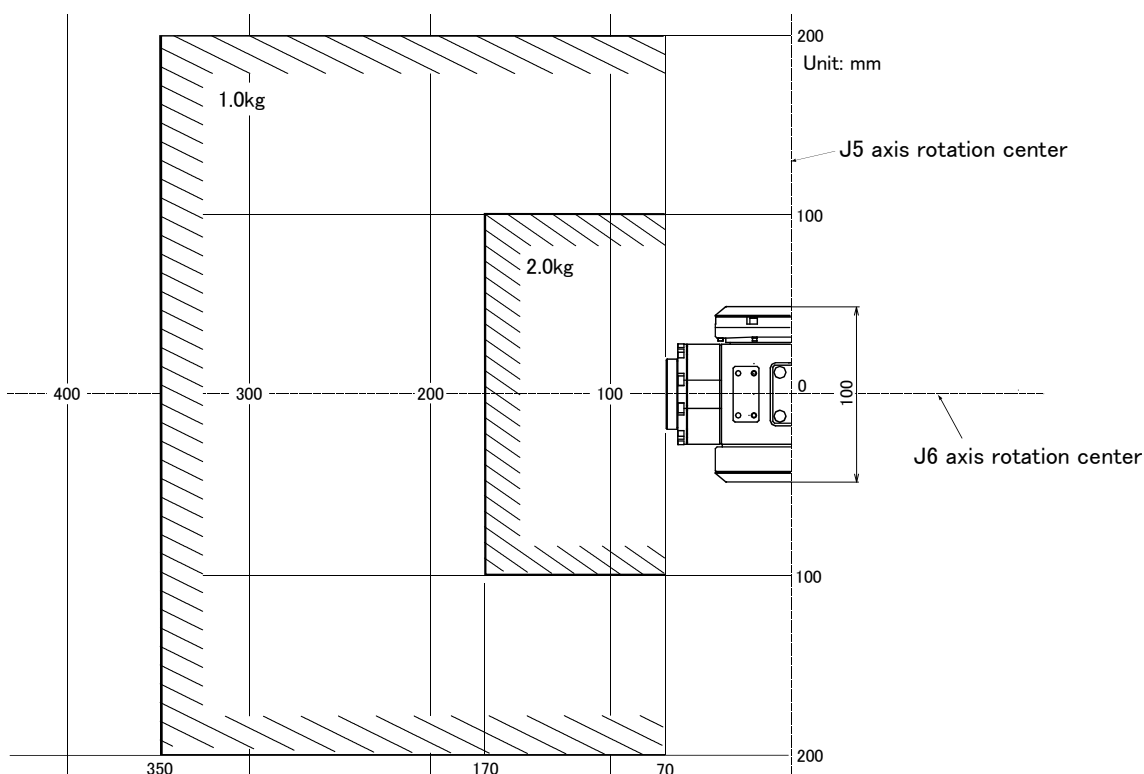

Fig.2-1 : Position of center of gravity for loads (for loads with comparatively small volume)
- (1) The tooling should have the value less or equal than the smaller of the tolerable inertia and the tolerable moment found in Page 9, "2.1.1 Basic specifications".
- (2) Fig. 2-1 shows the distribution dimensions for the center of gravity in the case where the volume of the load is relatively small. Use this figure as a reference when designing the tooling.
- (3) Even if the load is force, not the mass, design the tooling so that moment does not exceed the allowable moment. Refer to Page 9, "2.1 Standard specifications" for details of allowable moment value.